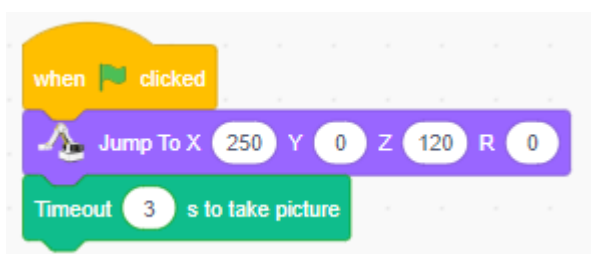

Figure 2.11 Initial robot
Step 5: Initialize the position of the robot and obtain an image of the goods, as shown in Figure 2.11